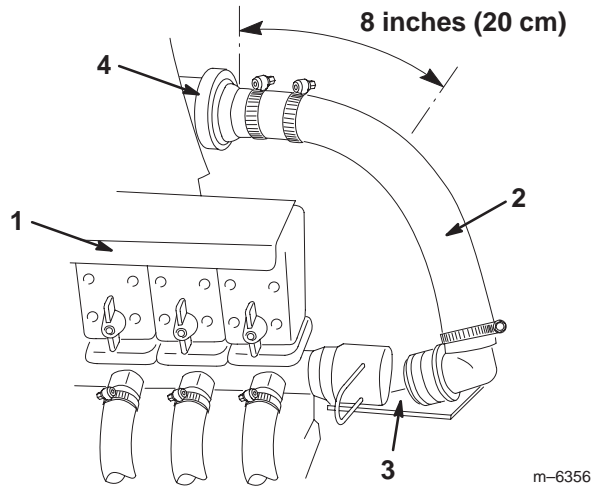

Figure 8
1. Remove the retainer securing the end of the boom supply hose connected to the tee located to the right of the boom supply valves and disconnect it (Fig. 8).
2. Cut the boom supply hose 8 inches (20 cm) to the right of the flow meter (if equipped) or 32 inches (81 cm) from the supply tee (located directly behind the boom valves) using a hacksaw (Fig. 8). Remove the hose clamp from the loose end and discard the hose and fitting.